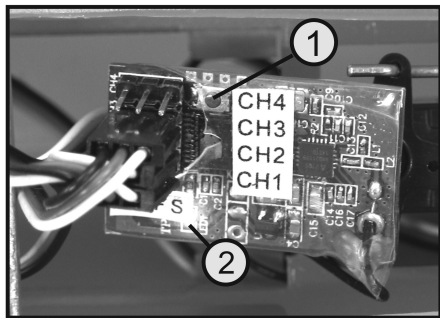

Figure 19
→ Right after activation, the receiver tries to receive a valid transmitter signal. If the transmitter is switched off or not bound to the receiver, the LED in the receiver (see figure 19, pos. 2) will go out very quickly. When the receiver is bound correctly, the LED is lit permanently when a valid transmitter signal is received.